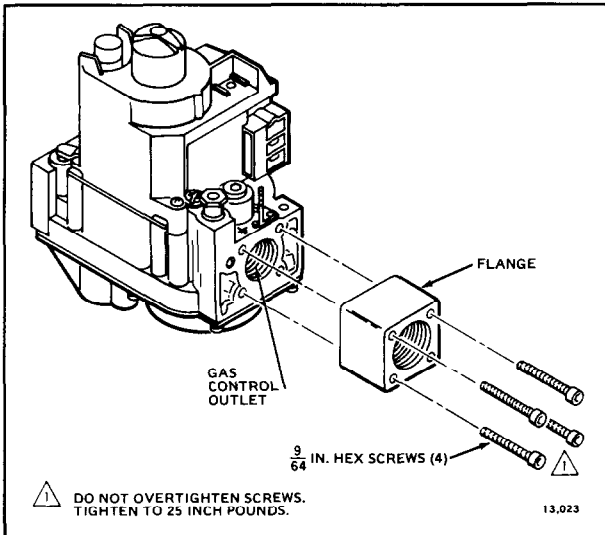

FIG. 2—INSTALL FLANGE TO GAS CONTROL.
4. With O-ring facing gas control, align the screw holes on the gas control with the holes in the flange. Insert and tighten the screws provided with the flange. See Fig. 2. Tighten the screws to 25 inch pounds of torque to provide a gas-tight seal.